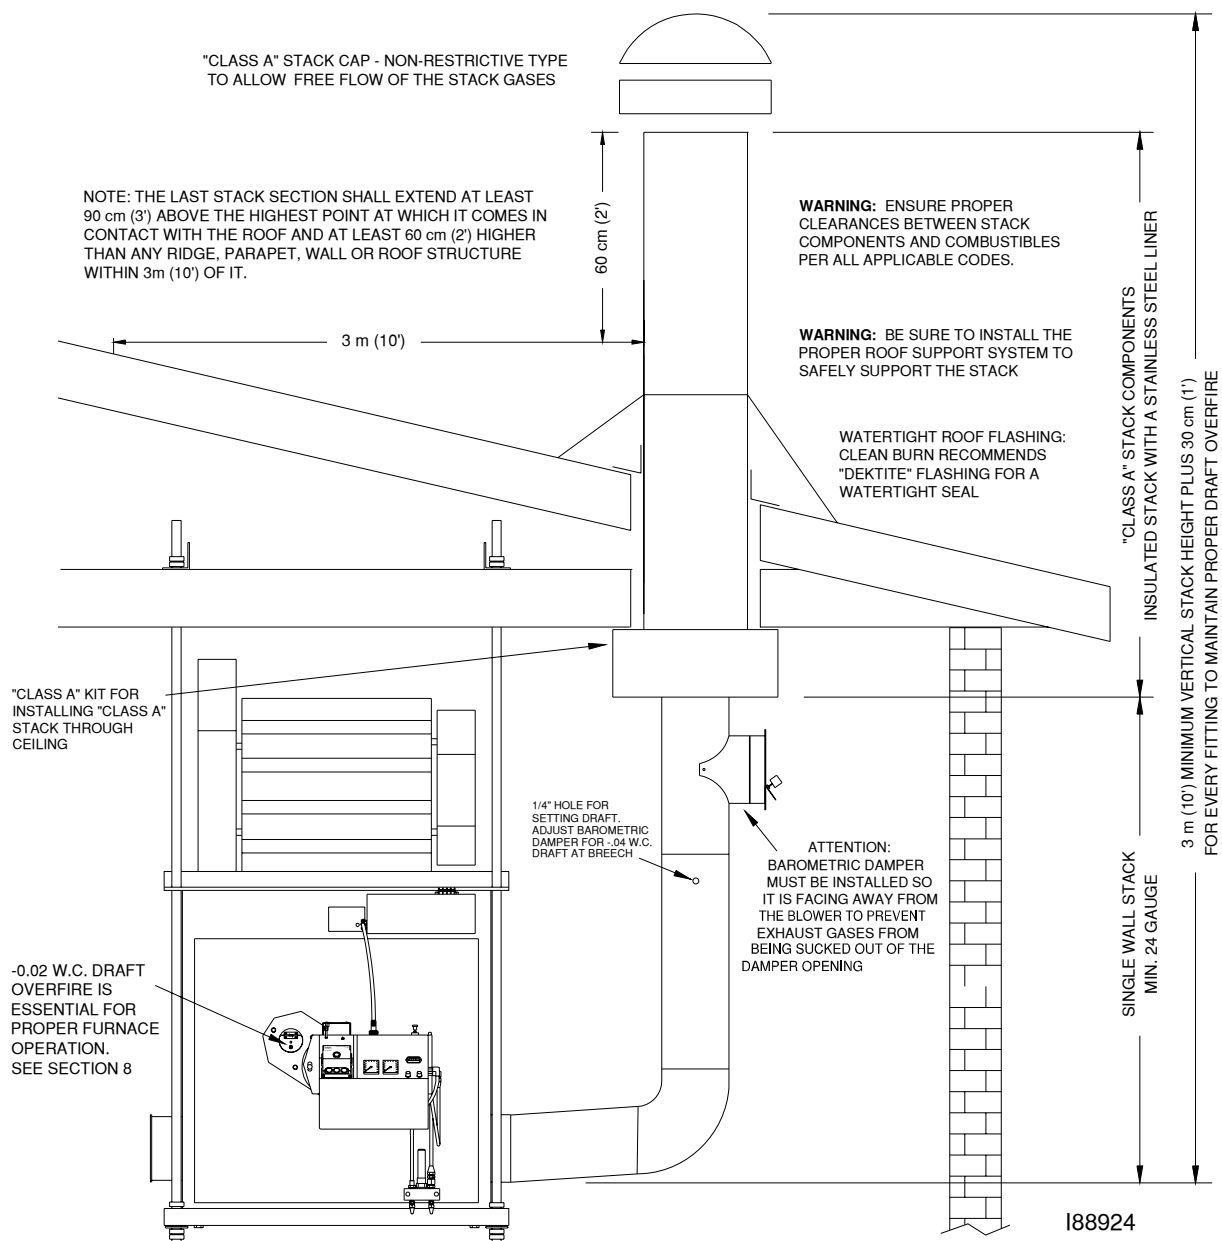
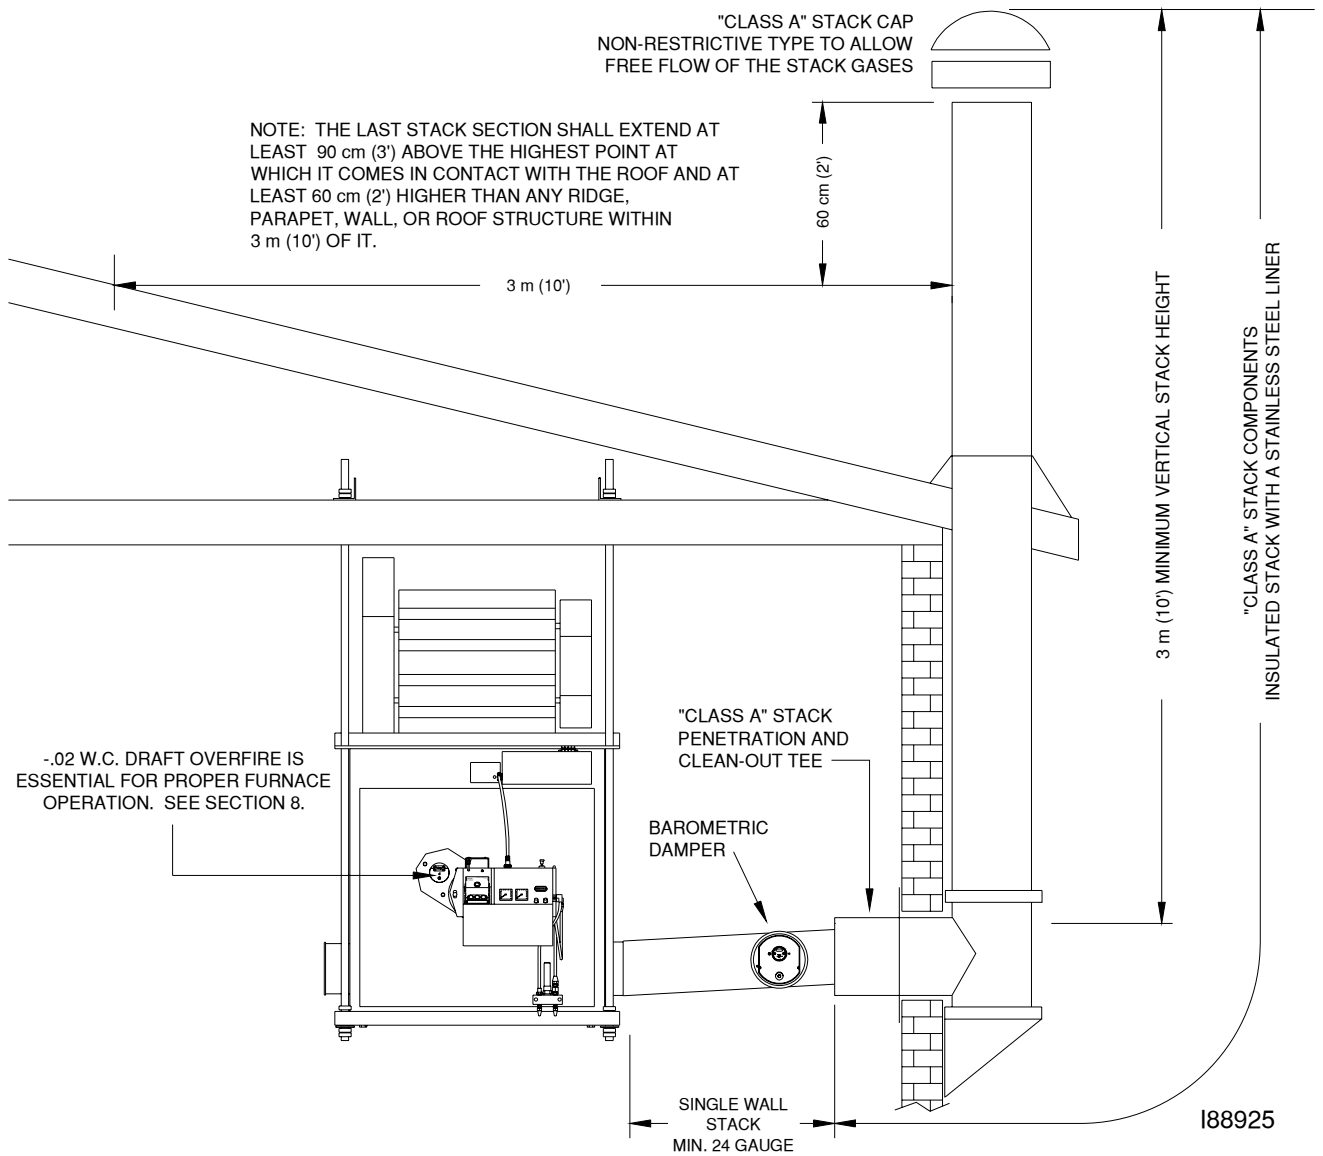

Figure 4L - Installation of "Class A" Stack Through Roof/Ceiling
Figure 4M - Installation of "Class A" Stack Through Sidewall
- (1) "Class A" stack through the ceiling of the building (refer to **Figure 4L**)
- (2) "Class A" stack through the sidewall and up the side of the building (refer to **Figure 4M**)
Figures 4L and 4M illustrate recommended stack designs. Choose the stack design which is appropriate for your furnace installation and review all specifications provided in the corresponding drawing. When designing your stack, adhere to the following specifications:
1. Refer to the stack installation drawing, Figure 4L. Install a single wall tee (min. 24 gauge) after the 90° elbow in the straight vertical stack section within 90 cm to 152 cm (3' to 5') of the furnace breach. For horizontal stack runs (as shown in Figure 4M), install the tee after the first straight section of pipe.
1. Refer to Figure 4L/4M as needed.
1. Refer to Figure 4L/4M as needed. Your stack cap should be classified as: "Class A" non-restrictive, all-fuel type.